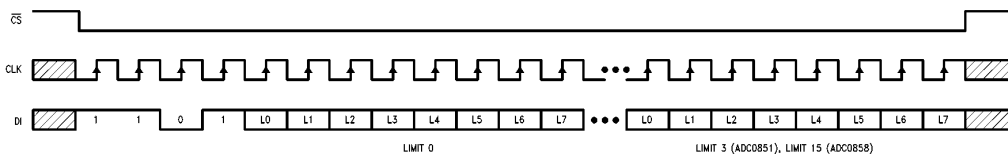

FIGURE 4. Timing Diagram for Write All Limits
Figure 4 shows the timing diagram. After \overline{CS} is brought low, the input word (DI) is clocked in starting at the first rising edge of CLK. The first four bits of DI configure the device in the “write all limits” mode. Next, the limit data is serially clocked in. To complete the operation, \overline{CS} should be brought high after the data is loaded.